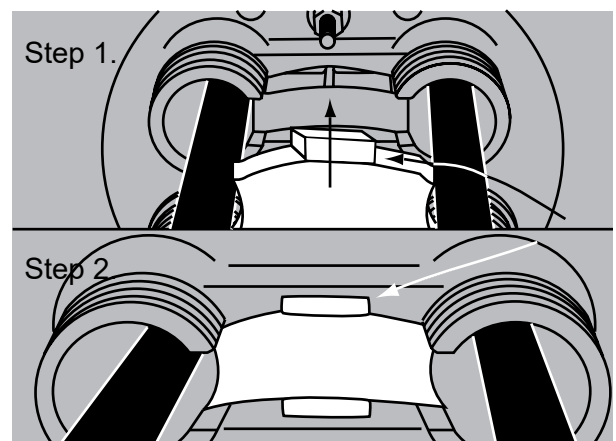

FIGURE 4
4. Insert the center wedge grommet between the express cables, narrow end first, with the shape and keys aligned to the opening. Continue inserting until flush with the endplate. (Figure 4)